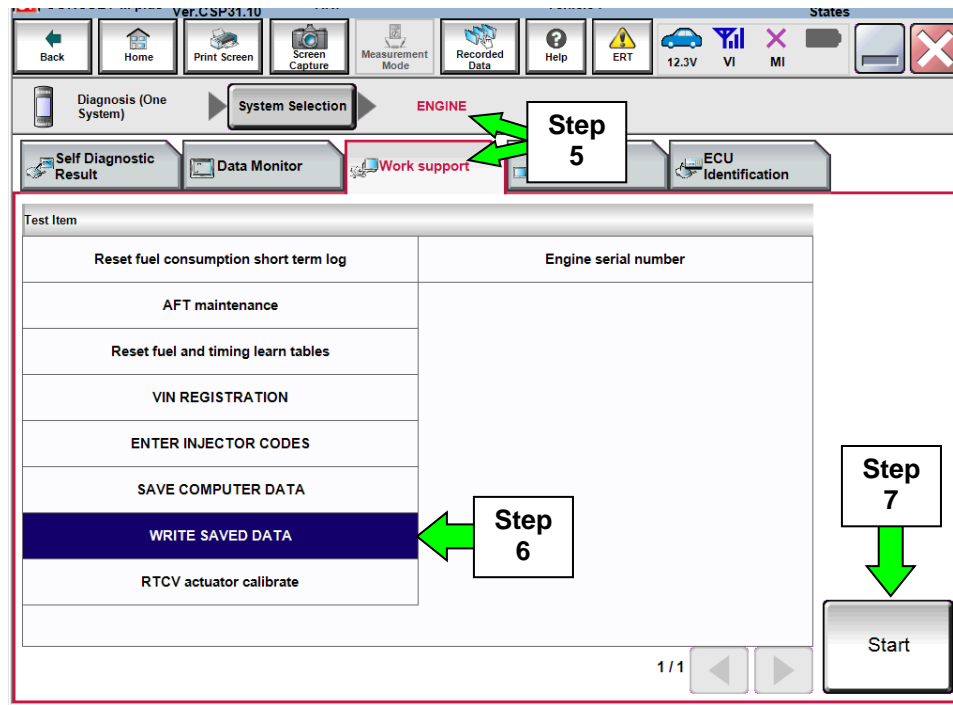

Figure 2E
5. Navigate C-III plus to ENGINE > Work support (see Figure 2E).